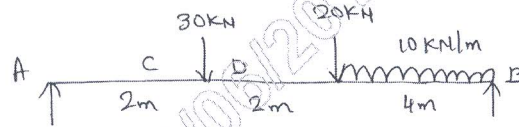

Fig. Q4
- 4 a. Draw SFD and BMD for simply supported beam shown in Fig. Q4. (14 Marks)